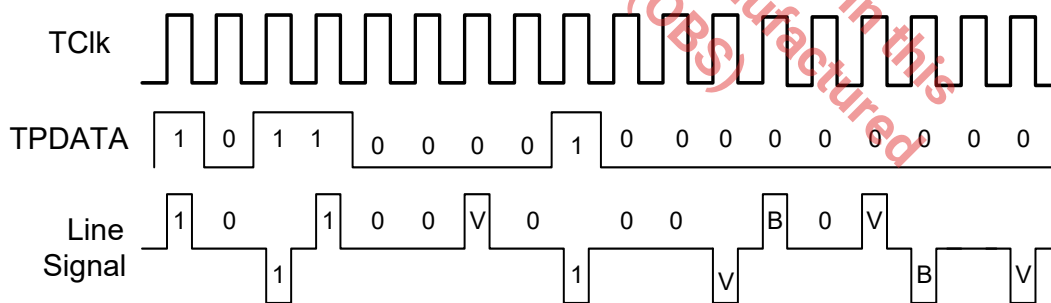

Figure 17: B3ZS Encoding Format
An example of B3ZS encoding is shown in Figure 17. If the encoder detects an occurrence of three consecutive zeros in the data stream, it is replaced with either B0V or 00V, where 'B' refers to Bipolar pulse that is compliant with the alternating polarity requirement of the AMI (Alternate Mark Inversion) line code and 'V' refers to a Bipolar Violation (for example, a bipolar pulse that violates the AMI line code). The substitution of B0V or 00V is made so that an odd number of bipolar pulses exist between any two consecutive violation (V) pulses. This avoids the introduction of a DC component into the line signal.